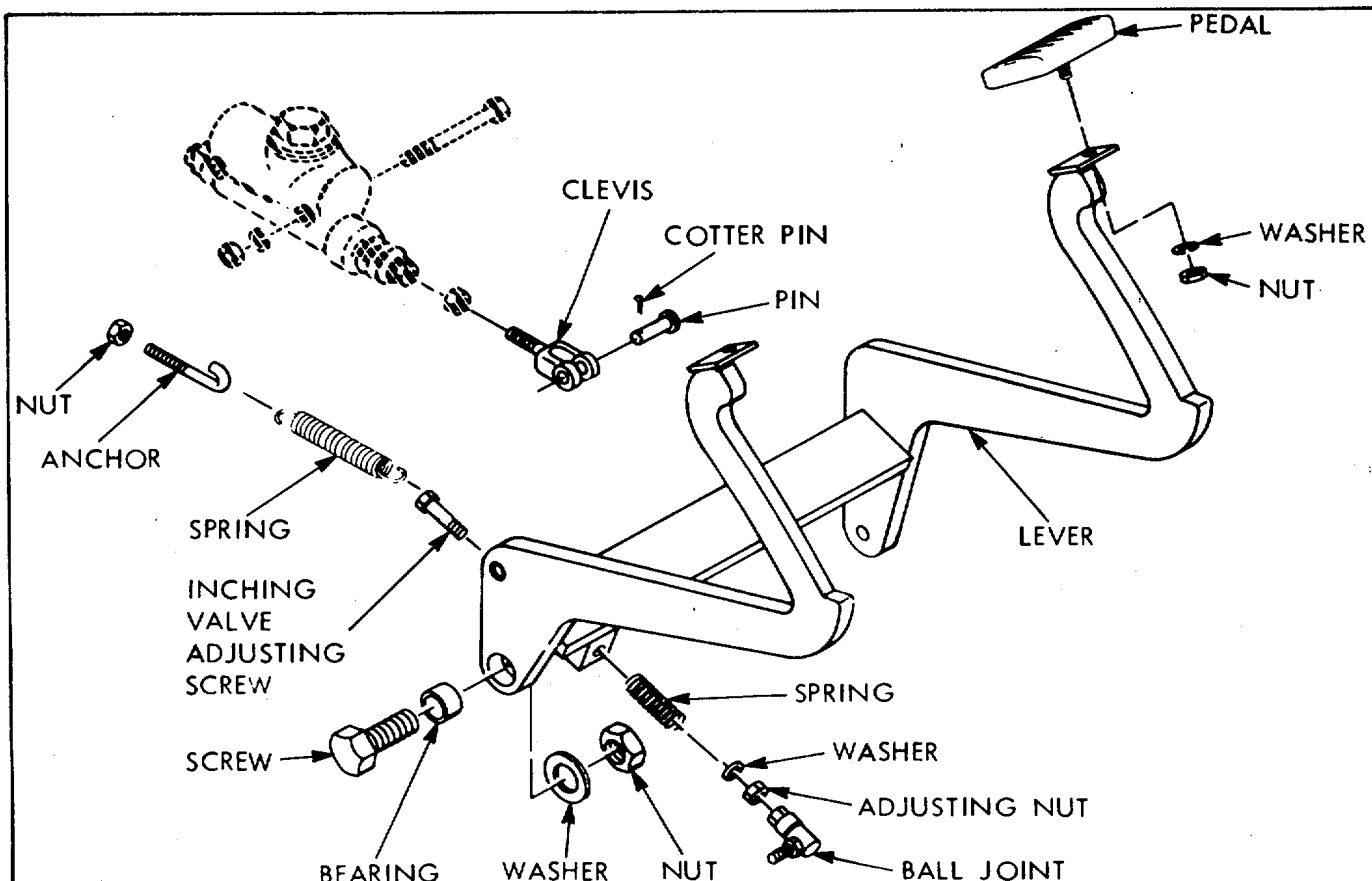

Figure 6-7. Brake Pedals and Linkage, Exploded View
(1) Remove five screws, nuts and washers, and remove floorboard.
(2) Remove pedal nuts and washers, and pedals (Figure 6-7). Remove cotter pin and pin from master cylinder clevis. Do not unscrew clevis from master cylinder unnecessarily to avoid disturbing pedal adjustment excessively.
(3) Remove inching valve adjustment screw and spring, brake lever mounting screws and bearings, and brake lever.
(1) Unscrew bolt, fitting and stoplight switch from master cylinder. Do not disassemble this group of parts.
(2) Remove cotter pin (Figure 6-7) and clevis pin from push rod yoke, remove two nuts and washers, through bolts, and master cylinder.